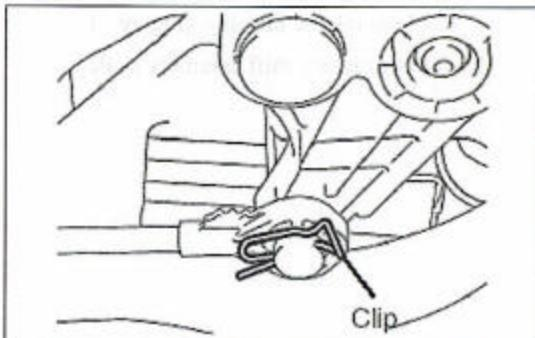

Figure 4
8. On the side of the shift assembly, remove the clip, then the shift cable. (Figure 4).